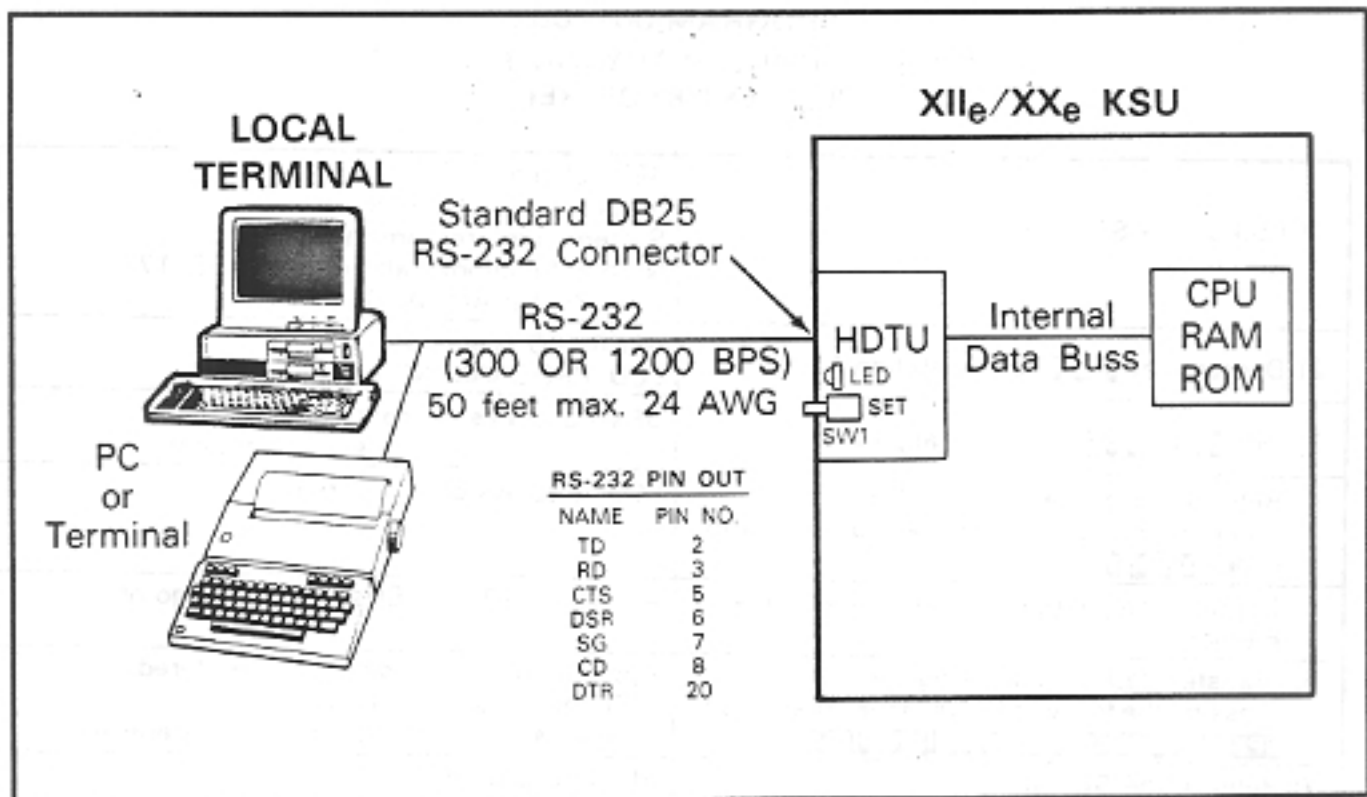

FIGURE 2—LOCAL TERMINAL CONNECTION
05.02 The local terminal must have an EIA RS-232 interface, communicate in ASCII code at 300 or 1200 bps, a standard typewriter-type keyboard, and display data via a CRT display or printer. A personal computer capable of emulating the described terminal may also be used (see Figure 2 and Paragraph 14).
05.11 Refer to Figure 2 and verify that the local terminal is connected and set-up as follows: